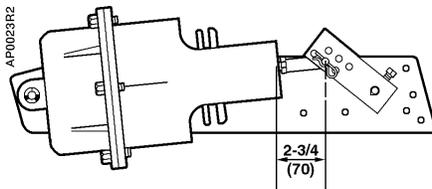

Figure 2. Extended Shaft Mounting.
2. Slip the crank over the 3/8-inch through 1/2-inch (10-millimeter through 13-millimeter) diameter damper shaft (Figure 2).